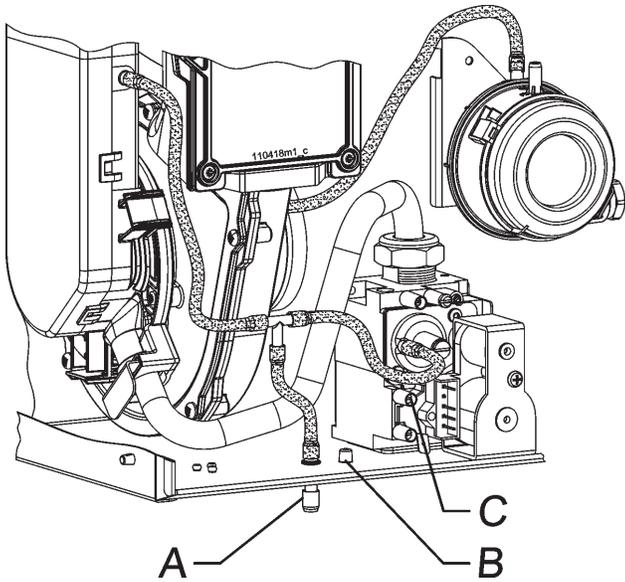

Figure 12-4 Combustion air pressure probes
The boiler has a factory-set air/gas ratio. The pressure of the gas at the burner is indirectly controlled by the blower. The combustion air pressure must be checked as follows while referring to Figures 12-4 and 12-5:
17. once the combustion air pressure check has been performed, disconnect the manometer, close pressure probe screw "C", re-install everything like on Figure 12-4. Close the boiler casing and turn the manual gas shut off valve on.